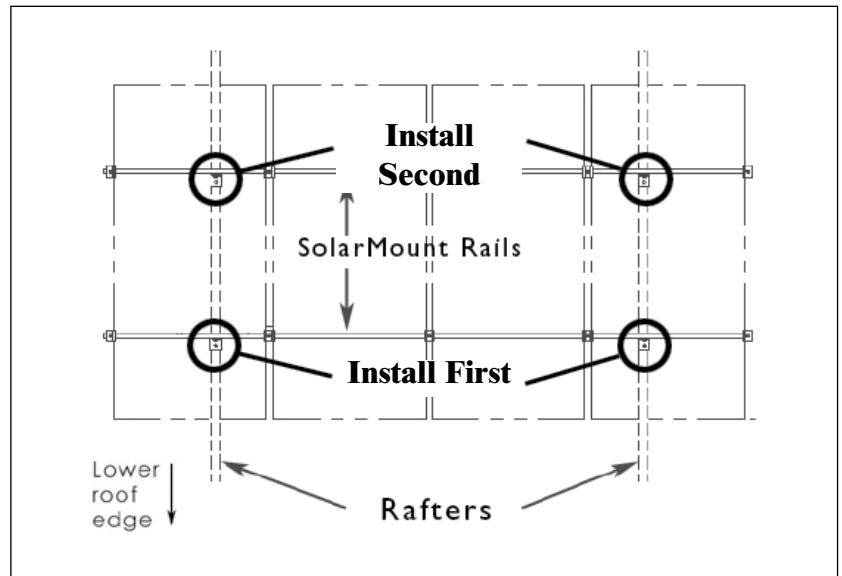
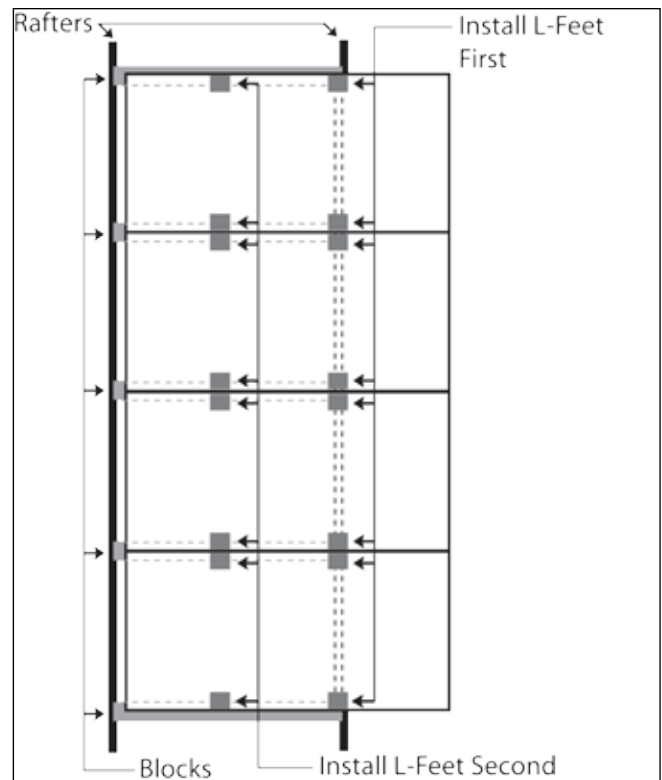

Figure 23. Layout with rails perpendicular to rafters.
Figure 24. Layout with rails parallel to rafters.
- If rails are perpendicular to rafters (**Fig. 23**), install the feet closest to the lower edge of the roof.
- If rails are parallel to rafters (**Fig. 24**), install the feet for one of the rails, but not both.
Squirt sealant into the hole and onto the shafts of the lag screws. Seal the underside of the L-feet with a sealant. Securely fasten the L-feet to the building structure with the lag screws. Ensure that the L-feet face as shown in **Figure 23** or **Figure 24**.